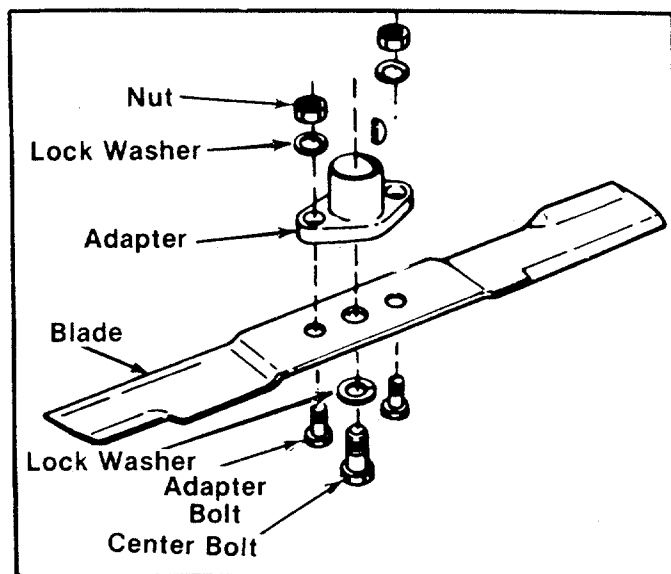

FIGURE 20. BLADE REMOVAL
- Remove the large bolt and lock washer which holds the blade and adapter to the blade spindle. See figure 20.
Step 2. Remove the blade by removing the hex bolt in the center of the blade. Hold the blade with one hand and using a 1/2" open end, box or adjustable wrench, remove the bolt. See figure 20.
- Step 2. Remove the blade by removing the hex bolt in the center of the blade. Hold the blade with one hand and using a 1/2" open end, box or adjustable wrench, remove the nut. See figure 20.